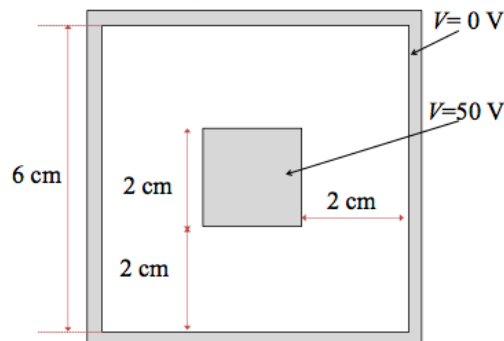

Figure 2. Cross section of rectangular coax. For this particular example, the inner conductor is at 50 V and the outer conductor is at 0 V.
- The finite difference technique (FDT) is easiest to apply to rectangular geometries, and you will use the FDT to investigate the rectangular coax shown in Figure 2. This rectangular coax is similar in size to the circular coax analyzed earlier, and so we should expect both to have similar capacitances (here “similar” means on the same order of magnitude).
- For this part, you will create a MATLAB script that computes and plots the electrostatic potential using the FDT for the rectangular coaxial geometry. Assume the inner conductor is held at 50 V and the outer conductor is held at 0 V, as shown in Figure 2. Please adhere to the following guidelines.
- Assume the geometry shown in Figure 2 is a cross section in the x-y plane. The rectangular coax is uniform in the z-direction, i.e.